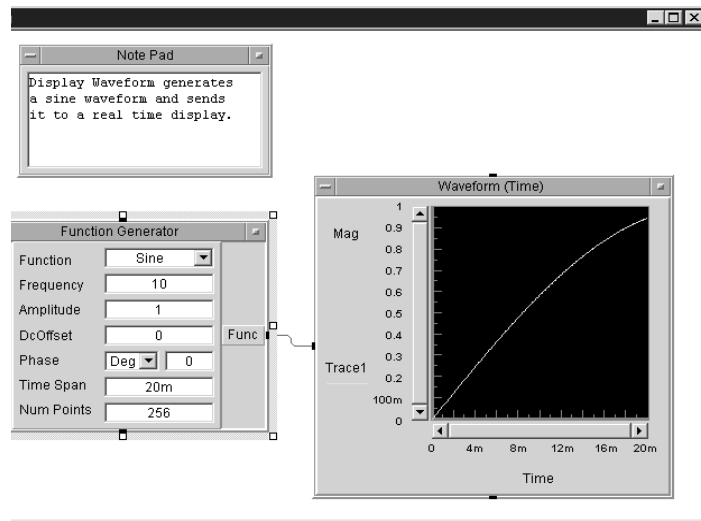

Figure 29 Example: Changing the Frequency Field to 10 Hz
- 8 Press **Delete** to delete the last **0**, changing the Frequency value to **10**. Run the program. It should look like Figure 29.